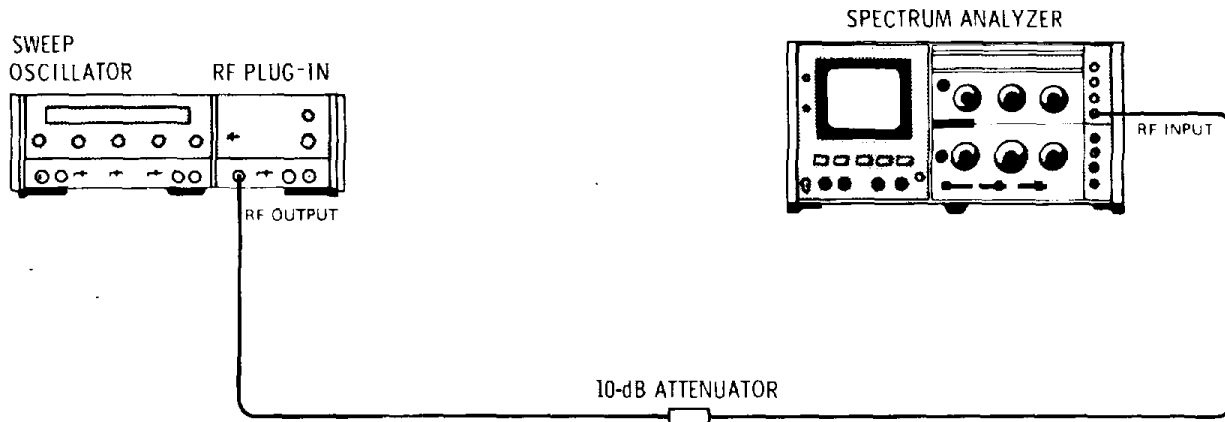

Figure 4-3. Residual FM Test Setup
a. Connect equipment as shown in Figure 4-3. Set controls as follows: